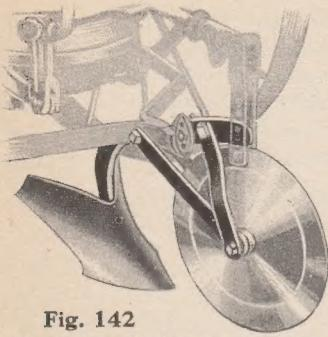
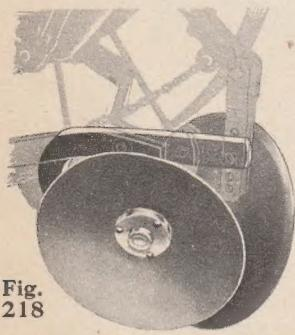

Fig. 142
Fig. 218
- No. 400RA —(No. 400R with single disc plow, Fig. 142, page 8)....
- No. 400RB —(No. 400R with double disc plow, Fig. 218, page 8)....
Four styles of plows are made for opening furrows. The choice is yours and in each case the soil is left loose on each side of the furrow. All of them can be set for depth. The shield opening plow, described on page 3, Fig. 476, is usually shipped, because it is best for most kinds of soil. It may be ordered as an attachment including only parts necessary to change from Fig. 142 or Fig. 218.
Fig. 142 is for use in extremely trashy ground and long vines. The disc does better work and eases the draft for the plow. If wanted on new machine, order by adding letter "A" to the number, as No. 400A.
Fig. 218, show up best where cowpeas or other growth has been plowed under (as is common in the South). The discs open a path that permits the planter to pass without interference in any way. If wanted on new machine, order by adding letter "B" to the number, as No. 400B.